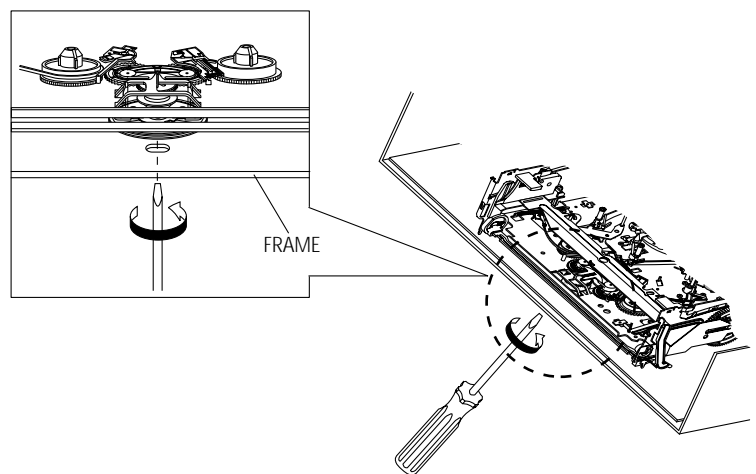

Fig. 3
- 3) When Slider S, T are approached in the position of unloading, rotate holder Clutch counterclockwise after inserting screw driver in the hole of frame's bottom in order to wind the unwound tape. (Refer to Fig. 3)